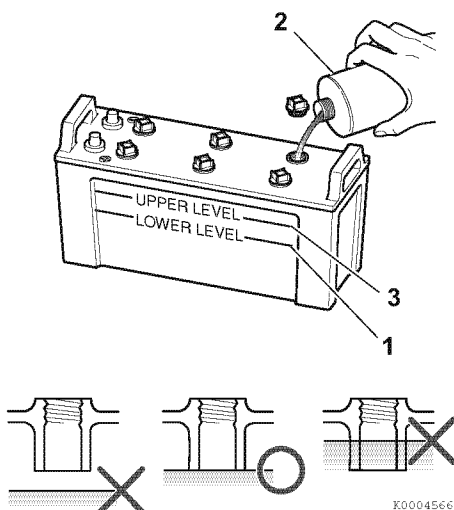

Figure 5
1. Do not operate engine if battery has insufficient battery fluid, as the battery will be destroyed. Check the fluid level periodically. If the level is lower than the minimum fill level (1, **Figure 5**), fill with distilled water (2, **Figure 5**) (available in the grocery store) up to the upper limit (3, **Figure 5**) of the battery. (Battery fluid tends to evaporate in high temperatures, especially in summer. In such cases, inspect the battery earlier than specified.)